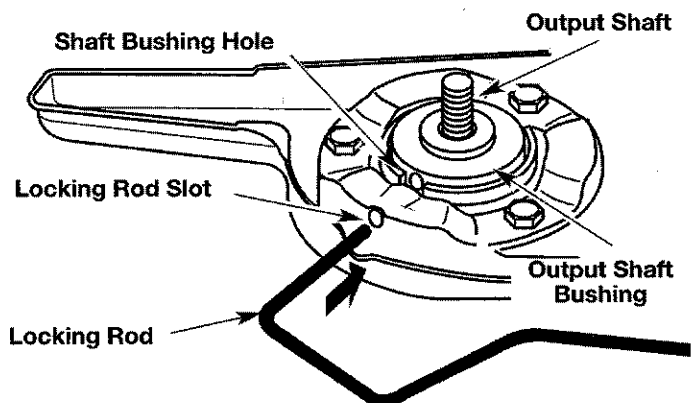
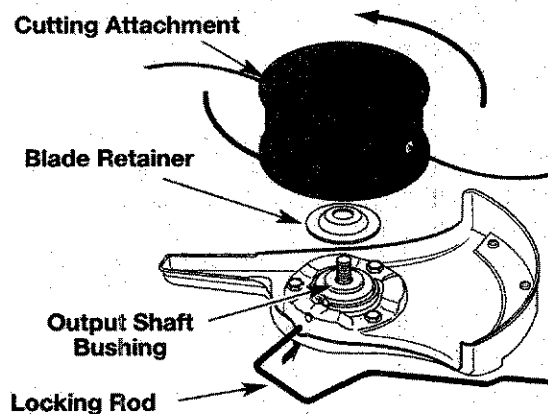

Fig. 13
Fig. 16
- Align the shaft bushing hole with the locking rod slot and insert the locking rod into the bushing hole (Fig. 13).
- Without a torque wrench, use a 5/8 inch closed-end or socket wrench, turning the nut until the blade retainer is snug against the shaft bushing. Make sure that the blade is installed correctly, then rotate the nut an additional 1/4 to 1/2 turn counterclockwise (Fig. 13).
5. Align the shaft bushing hole with the locking rod slot and insert the locking rod into the shaft bushing hole (Fig. 13). Place the blade retainer on the output shaft with the flat surface against the output shaft bushing as shown in Fig. 16. Screw the cutting attachment counterclockwise onto the output shaft. Tighten securely.